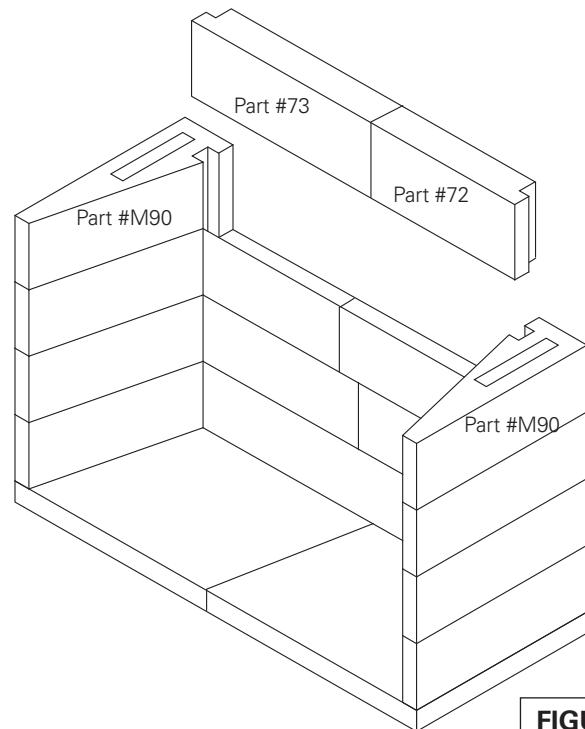

FIGURE 30
3. Continue assembly of the consecutive courses of the firebox side wall and back wall, making sure to stagger the backwall components so that the vertical joints do not align. Apply Earthcore adhesive to the top of each layer of wall components, set the next course above into place. Be sure to Earthcore adhesive all vertical joints of the side wall to back wall connection when setting each component to its mate. **(Figure 30)**